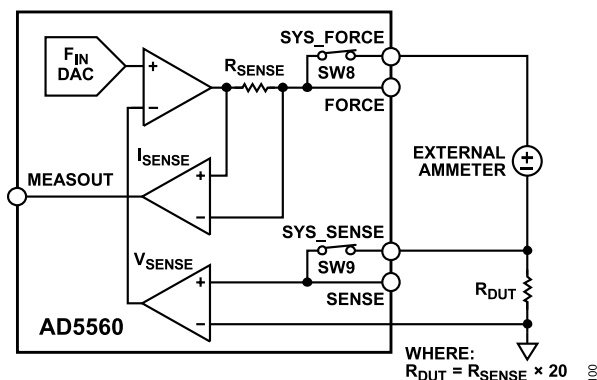

Figure 58. Measure Current Calibration
- Connect the SYS_SENSE pin to a precision resistor (R_{DUT}), where $R_{DUT} = R_{SENSE} \times 20$ of the current range, and connect its other terminal to ground (see Figure 58).